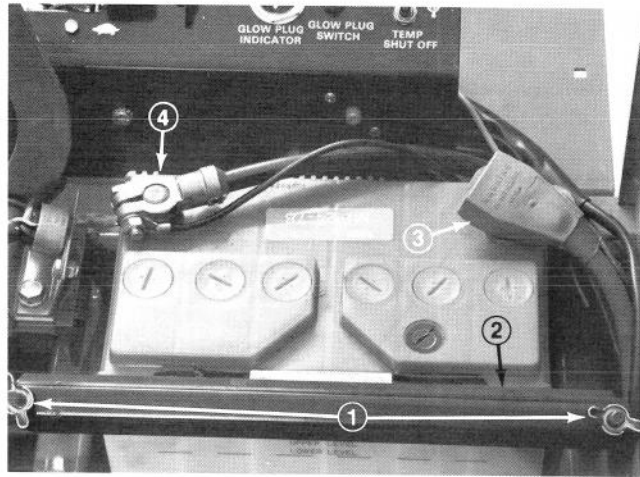

Figure 6
2. Remove two wing nuts and hold down strap that secures battery and seat switch in place (Fig.6). Lift battery out of chassis. Keep wing nuts and hold down strap in safe place for later use.